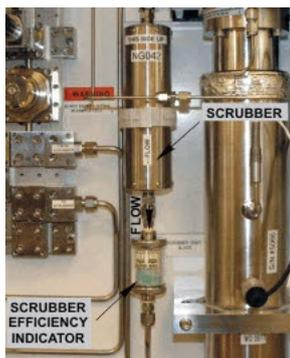

Figure 9: Scrubber and scrubber efficiency indicator
3. Insert inlet and outlet tubes into the new assembly, ensuring correct orientation (see Figure 9).